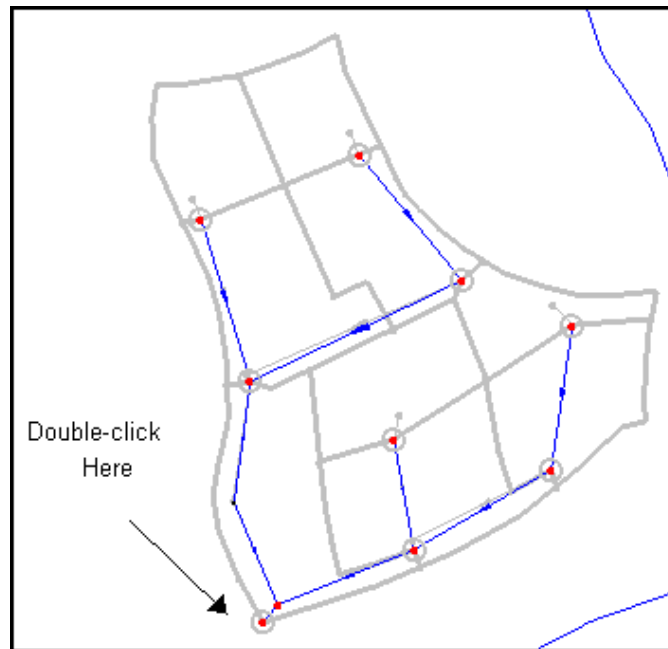

Figure 6-3: Outfall location.
3. Double-click on the node in the lower left-hand corner of the subdivision as shown in Figure 6-3